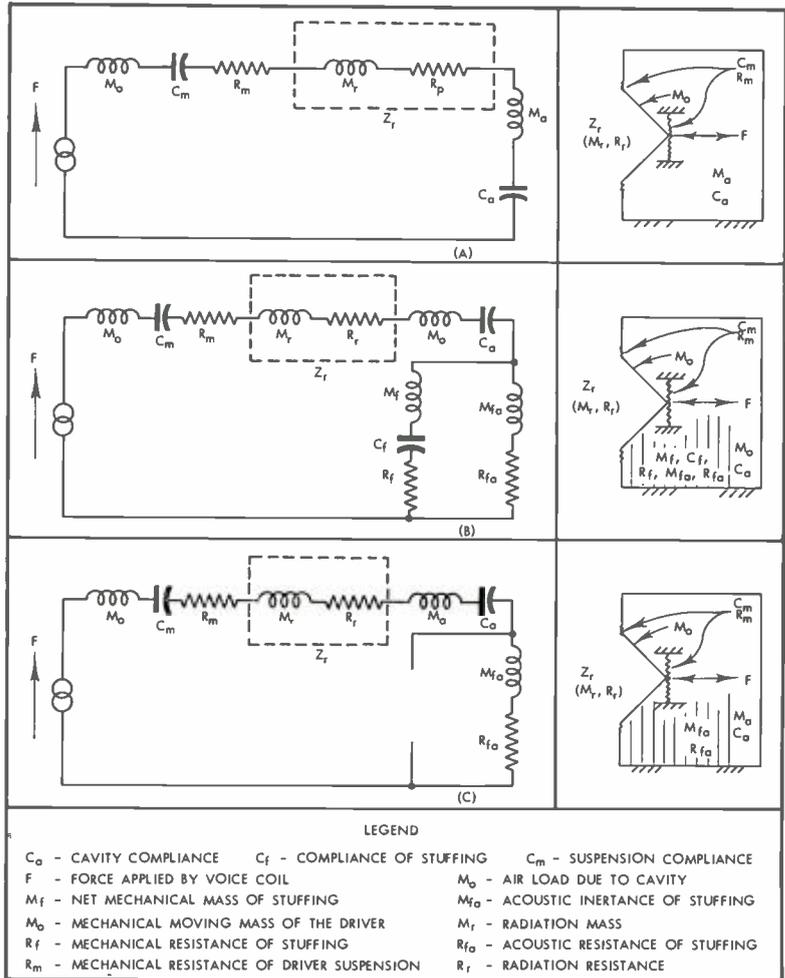

Fig. 3. Equivalent circuits: (A) unstuffed cavity, (B) stuffing placed in cavity loosely, and (C) stuffing placed in holding frame in cavity.
A series of experiments was carried out to determine the degree to which the air spring behind the driver cone can be made isothermal. Before discussing this investigation a rationale of the impedance type equivalent circuits of Fig. 3 must be made. All discussion and experimental results will be presented in mechanical terminology; that is, all impedances, potentials, and currents will be reflected into the mechanical network and characterized by forces, lineal displacements and velocities.
In Fig. 3, (A) shows the well known series representation of a closed-box direct-radiator loudspeaker system with nothing but air in the cavity. The radiation air load (on the front of the piston) is shown as a mass in series with a resistance.
An element not too often included in the impedance of the air cavity is M_a , the air load mass on the rear of the piston. This element appears in series with the cavity compliance, C_a , and is well behaved where C_a itself is well behaved, namely where the wavelengths are equal to or greater than about eight times the nominal box dimension. With the box dimensions and frequency range used in the experiments, the wavelengths were approximately 22 to 50 times the box dimensions, making the cavity well behaved, indeed. Since the impedance analogy as shown for the case of (A) in Fig. 3 is well accepted no further discussion of it is necessary.
The equivalent circuit representation of the much more complicated case wherein fiberglass stuffing is used to fill the cavity is shown at (B) in Fig. 3. This case is not quite so simple as it might seem at first glance.